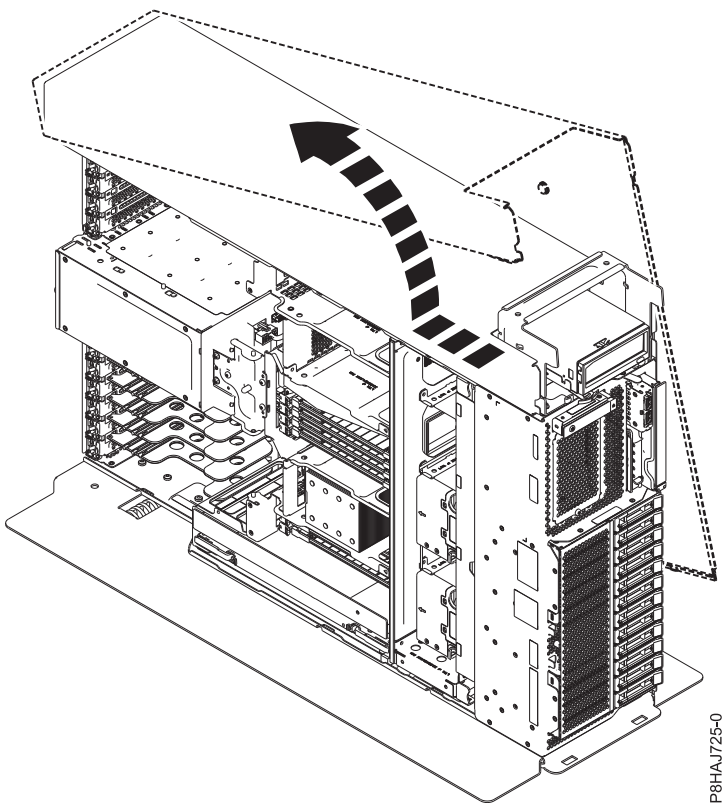

Figure 31. Removing the 8286-41A side cover
5. Slide the side cover off of the system in the direction that is shown in Figure 31 on page 49.